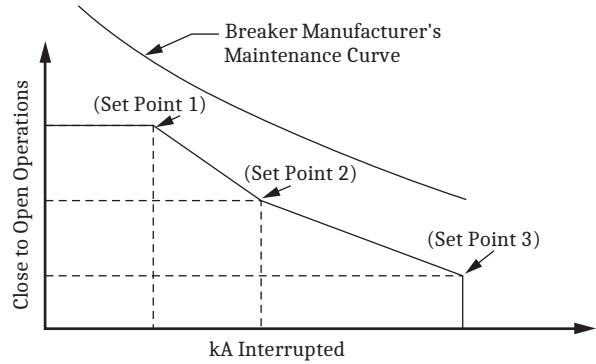

Figure 20 Breaker Contact Wear Curve and Settings
- ▶ Every time the breaker trips, the relay integrates interrupted current. When the result of this integration exceeds the threshold set by the breaker wear curve (Figure 20), the relay can alarm via an output contact or the optional front-panel display. With this information, you can schedule breaker maintenance in a timely, economical fashion.